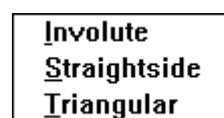

Fig 3.12 **Spline** popup menu
**Draw | Spline** command calls popup menu **Spline** (Fig 3.12).